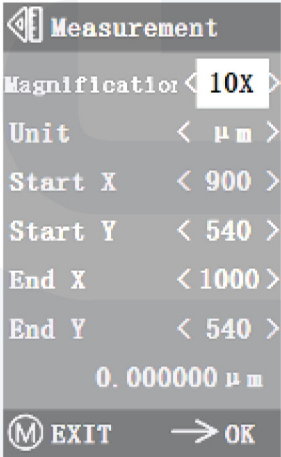

Figure 5-9
- Enter the Measurement menu. Select the measurement magnification, adjust the starting and ending point, and the measurement length is displayed at the bottom in real time, as shown in Figure 5-9